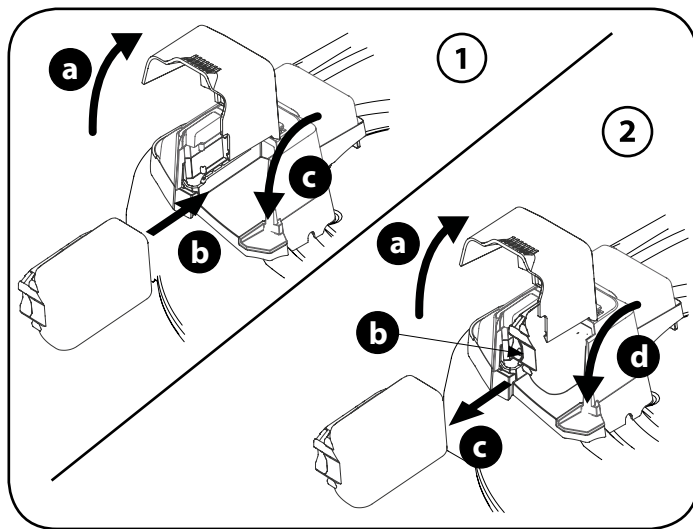

Figure 12
1. To install the battery pack perform the following. See Figure 12:
2. To remove the battery perform the following. See Figure 12: